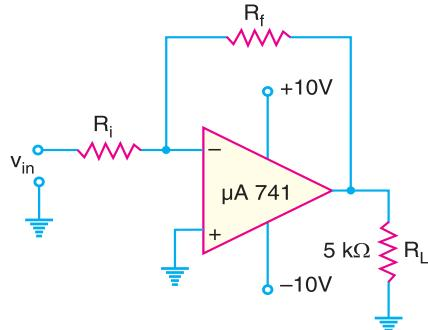

Fig. 25.44
**Example 25.23.** Determine the maximum operating frequency for the circuit shown in Fig. 25.44. The slew rate is 0.5 V/ $\mu$ s.
**Example 25.24.** The amplifier in Fig. 25.44 is being used to amplify an input signal to a peak output voltage of 100 mV. What is the maximum operating frequency of the amplifier?